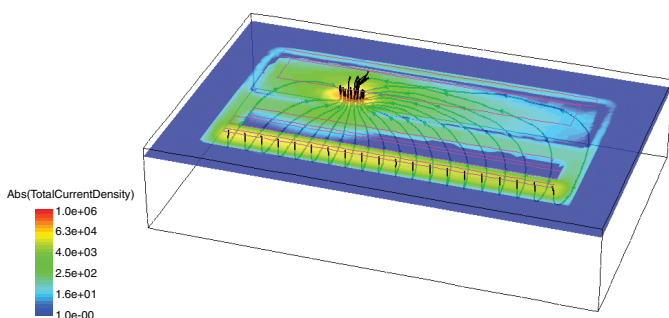

Figure 1: Formation of current filament leading to temperature hot spot in a device during an ESD pulse using Sentaurus Device 3D device simulation.
Electrostatic discharge (ESD) is a major threat for integrated circuit (IC) reliability. TCAD device simulation can identify and investigate ESD-relevant effects and the internal behavior of the device under ESD stress conditions, which are not generally accessible by measurement. In particular, TCAD can be successfully used to study 3D effects arising from device layout or inhomogeneous current (see Figure 1).